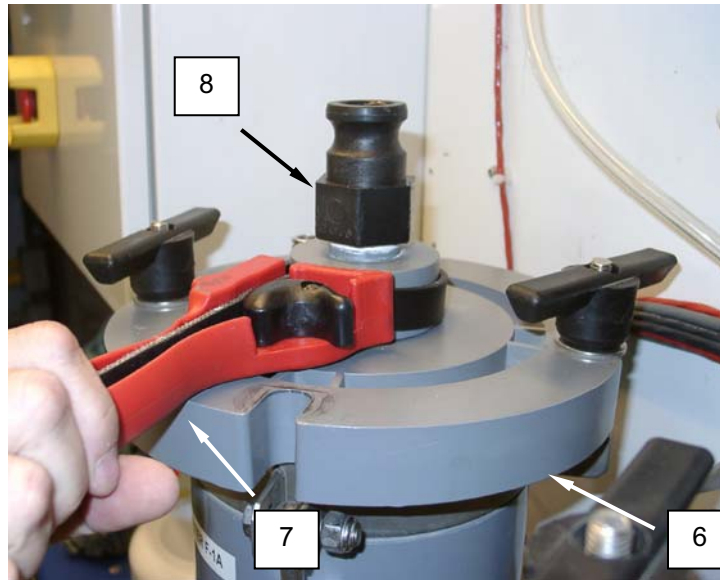

Figure 2. Replace the F-1A or F-1B Filter Elements (Socks).
2. Use a strap wrench (**Figure 2, item 7**) to loosen the QD male fitting (**Figure 2, item 8**) from the filter cap (**Figure 2, item 6**).